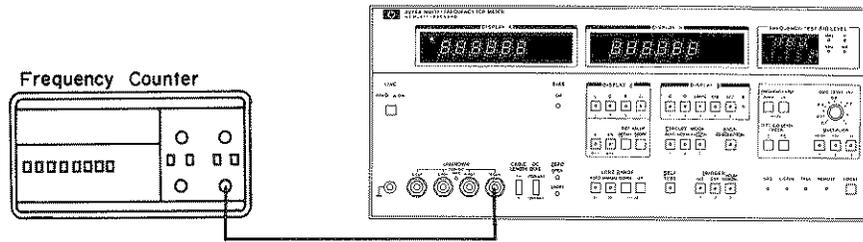

Figure 4-1. Test Frequency Accuracy Test Setup.
1. Connect BNC to BNC cable to 4275A UNKNOWN H_{CUR} terminal and to frequency counter input as shown in Figure 4-1.